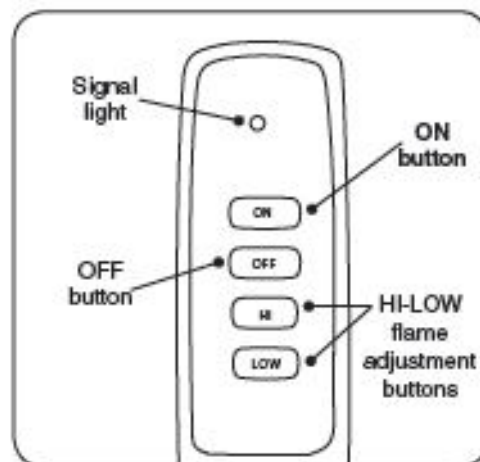

Fig. 17-3 Remote transmitter detail
3. Locate the remote transmitter and press the ON button (see Fig. 17-3). The system will beep and the ignition sequence will begin.